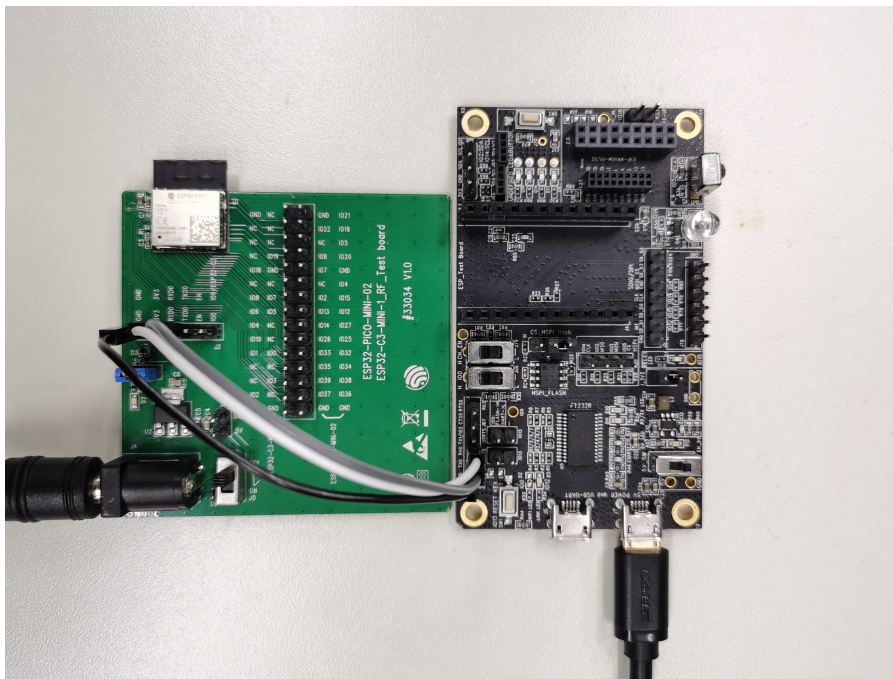

Figure 2: Hardware Connection
1. Solder the ESP32-C3-MINI-1U module to the RF testing board as shown in Figure 2.